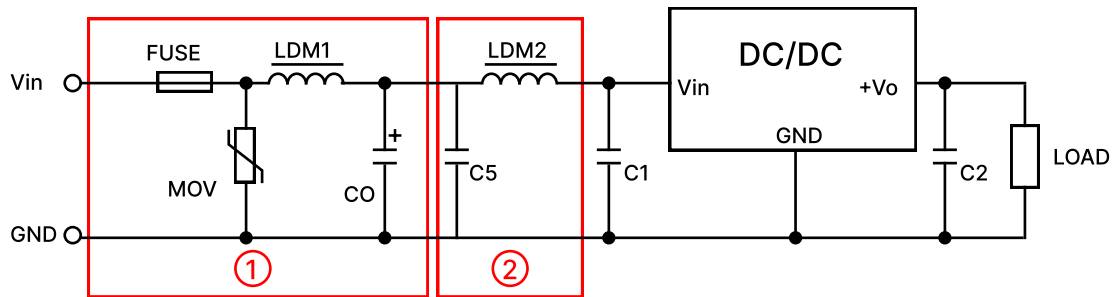

Figure 2: EMC Typical Recommended Circuits
Radiation disturbance	CISPR32/EN55032 CLASS B (Consider Figure 2 ②)
EFT	IEC/EN 61000-4-4 ±1KV perf. Criteria B (Consider Figure 2 ①)
Surge immunity	IEC/EN 61000-4-5 line to line ±1KV perf. Criteria B (Consider Figure 2 ①)
2. EMC requirements: For situations with high EMC requirements, a typical EMC recommended circuit is shown in Figure 2.